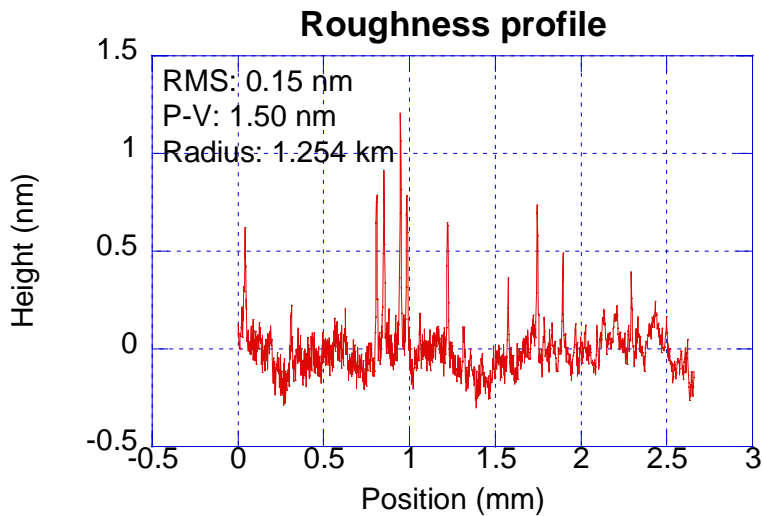

Figure 1. An example of the roughness profiles (measurement 1).
- Figure 1 shows an example of the surface roughness profiles.